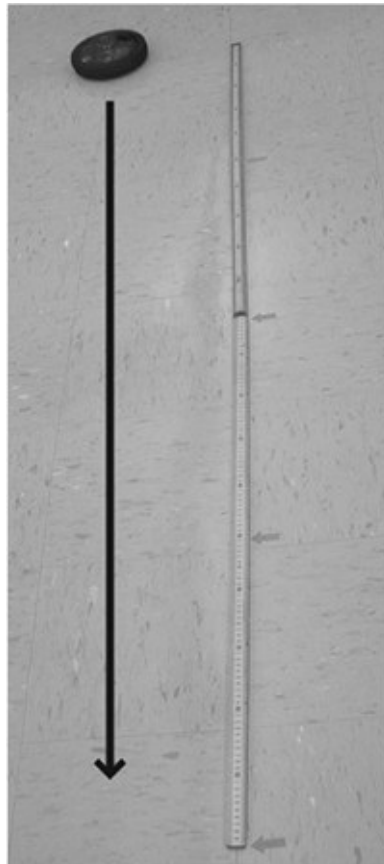

Figure 1-1 Nearly frictionless motion can be achieved using a Hover Puck.
5. Push the puck (or basketball) in the designated direction. Start with a *medium push*. See Figure 1-1.